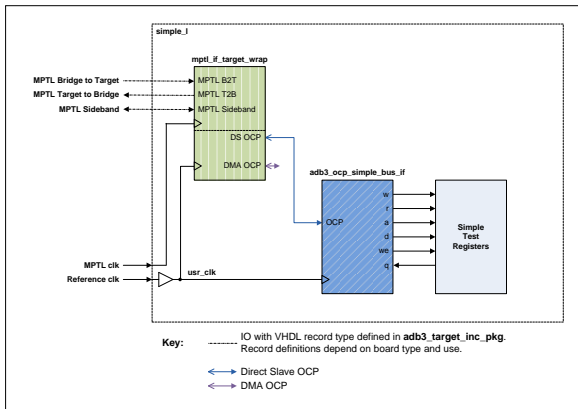

Figure 8: Simple Design Block Diagram (MPTL)
**Figure 8** below shows the main elements of the **Simple** design using MPTL interface IP.